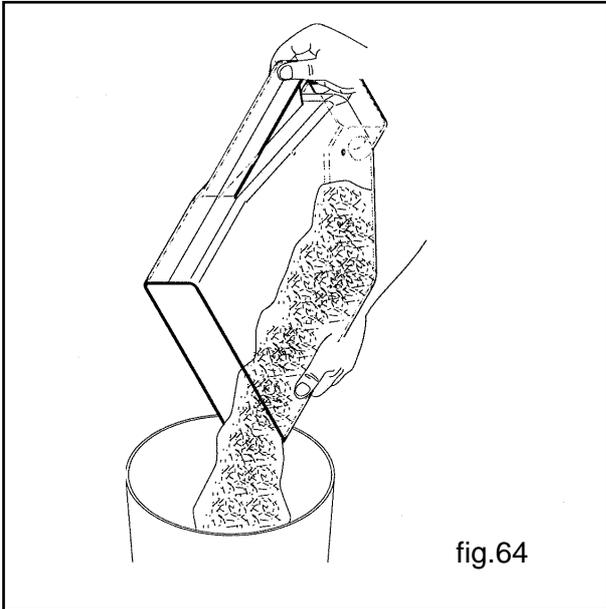

fig.64
- unload all products from their containers (fig.64)